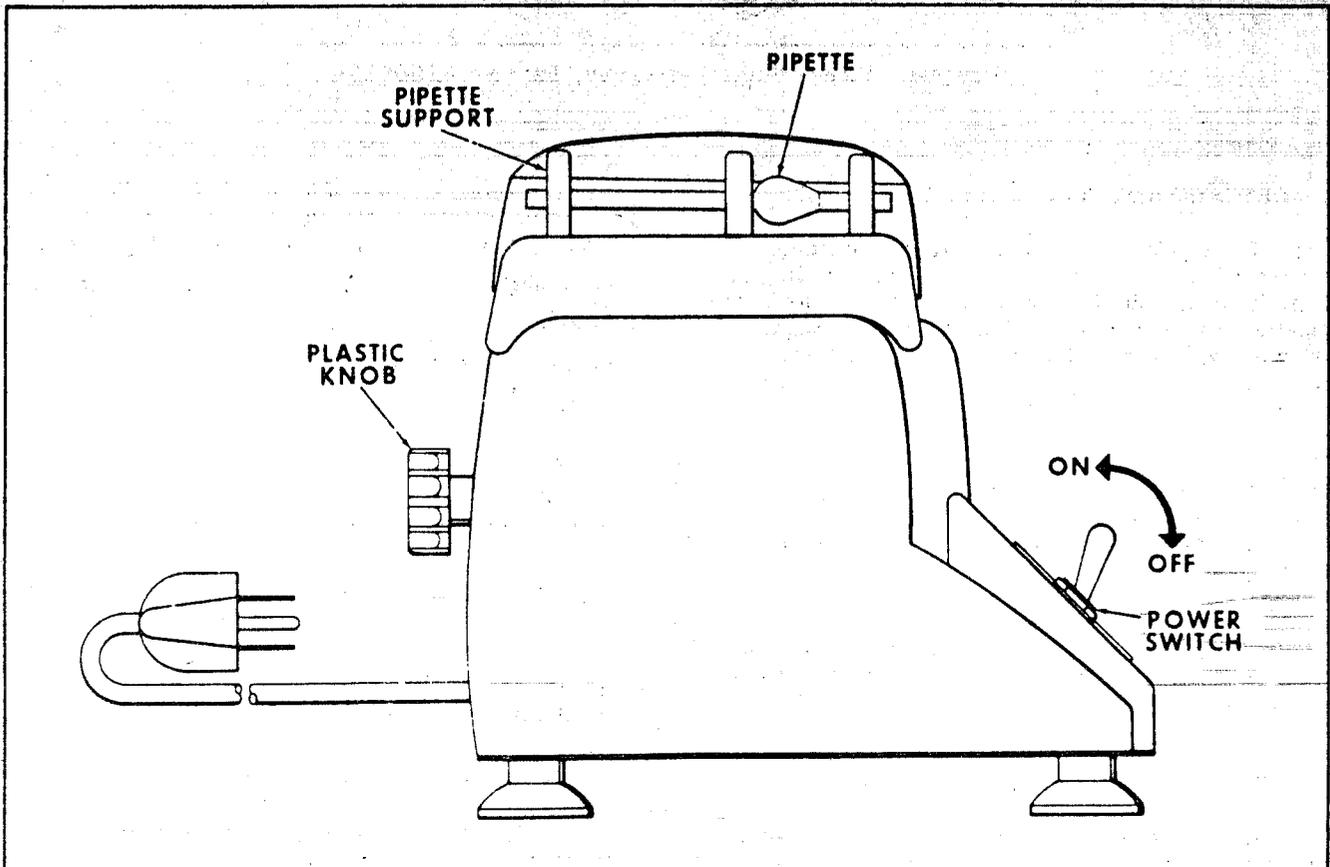

Figure 2. Operating Diagram
3. OPERATING INSTRUCTIONS. (See figure 2.)